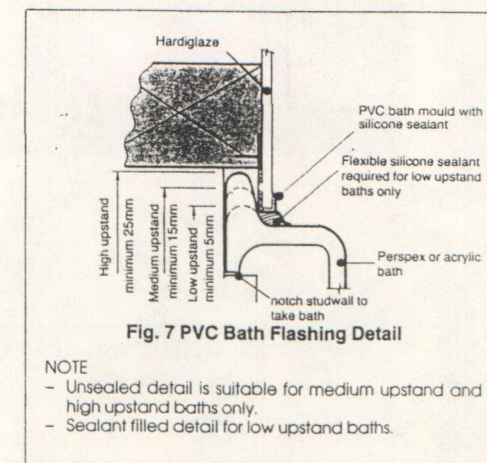

Fig. 7 PVC Bath Flashing Detail
- Around baths alternative details can be used. When bath moulds or capping moulds are used the sheet edges must be well sealed with a flexible silicone sealant. A suitable silicone sealant is Expandite Silaflex RTV, or similar, colour matched to the sheets. (Refer Figs. 7, 8 and 9)